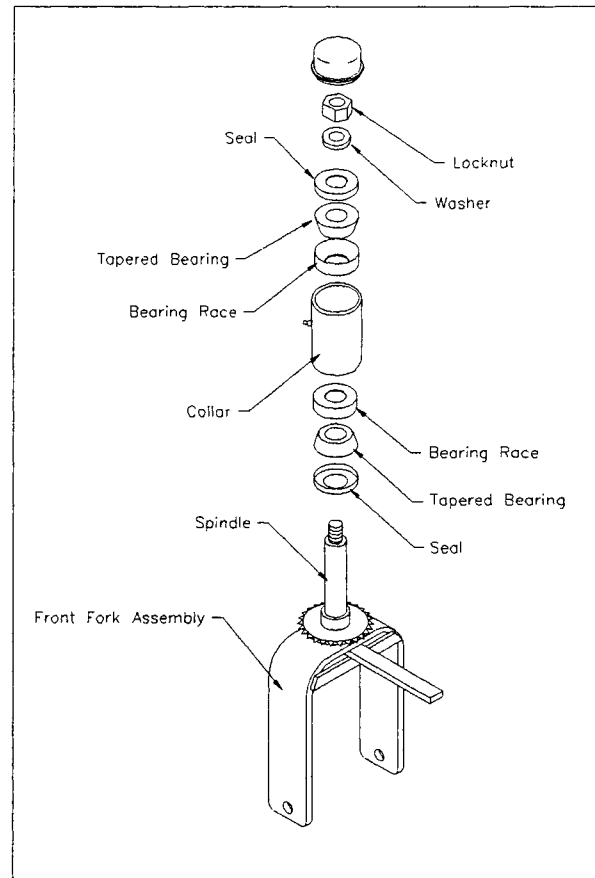

Figure 3-7
- Remove the dust cap covering the top of the spindle (see Figure 3-7).